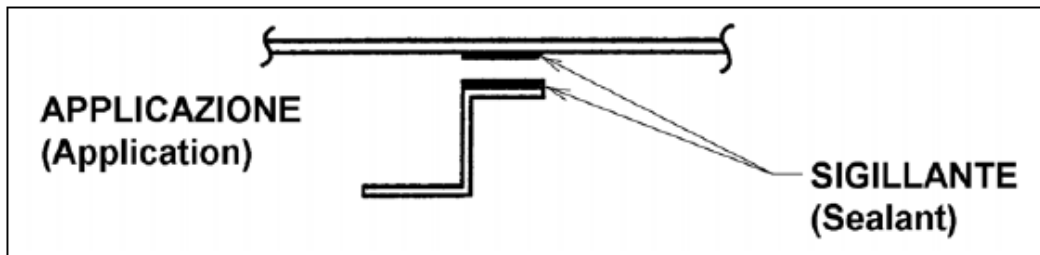
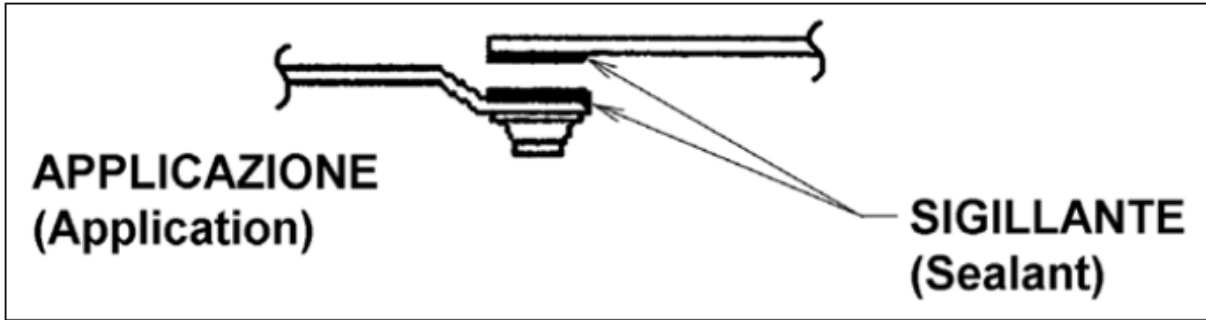

Figure 3: Sealant application
Figure 6: Sealant application
2. Apply sealant on both surfaces to joint (see Figure 3 and Figure 6). If necessary smooth it with a spatula paying attention not to create depressions or protrusions.